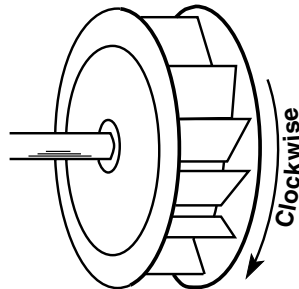

Figure 10
2. **Wheel Rotation:** Direction of wheel rotation is critical. Reversed rotation will result in poor air performance, motor overloading and possible burnout. Check wheel rotation by momentarily energizing the unit (all SQ and BSQ fans have clockwise wheel rotation when viewed from top of fan). Rotation should be clockwise as shown in Figure 10 and correspond to the rotation decal on the unit.
- Start the fan and shut it off immediately to check rotation of the wheel with directional arrow in the motor compartment, see Figure 10.